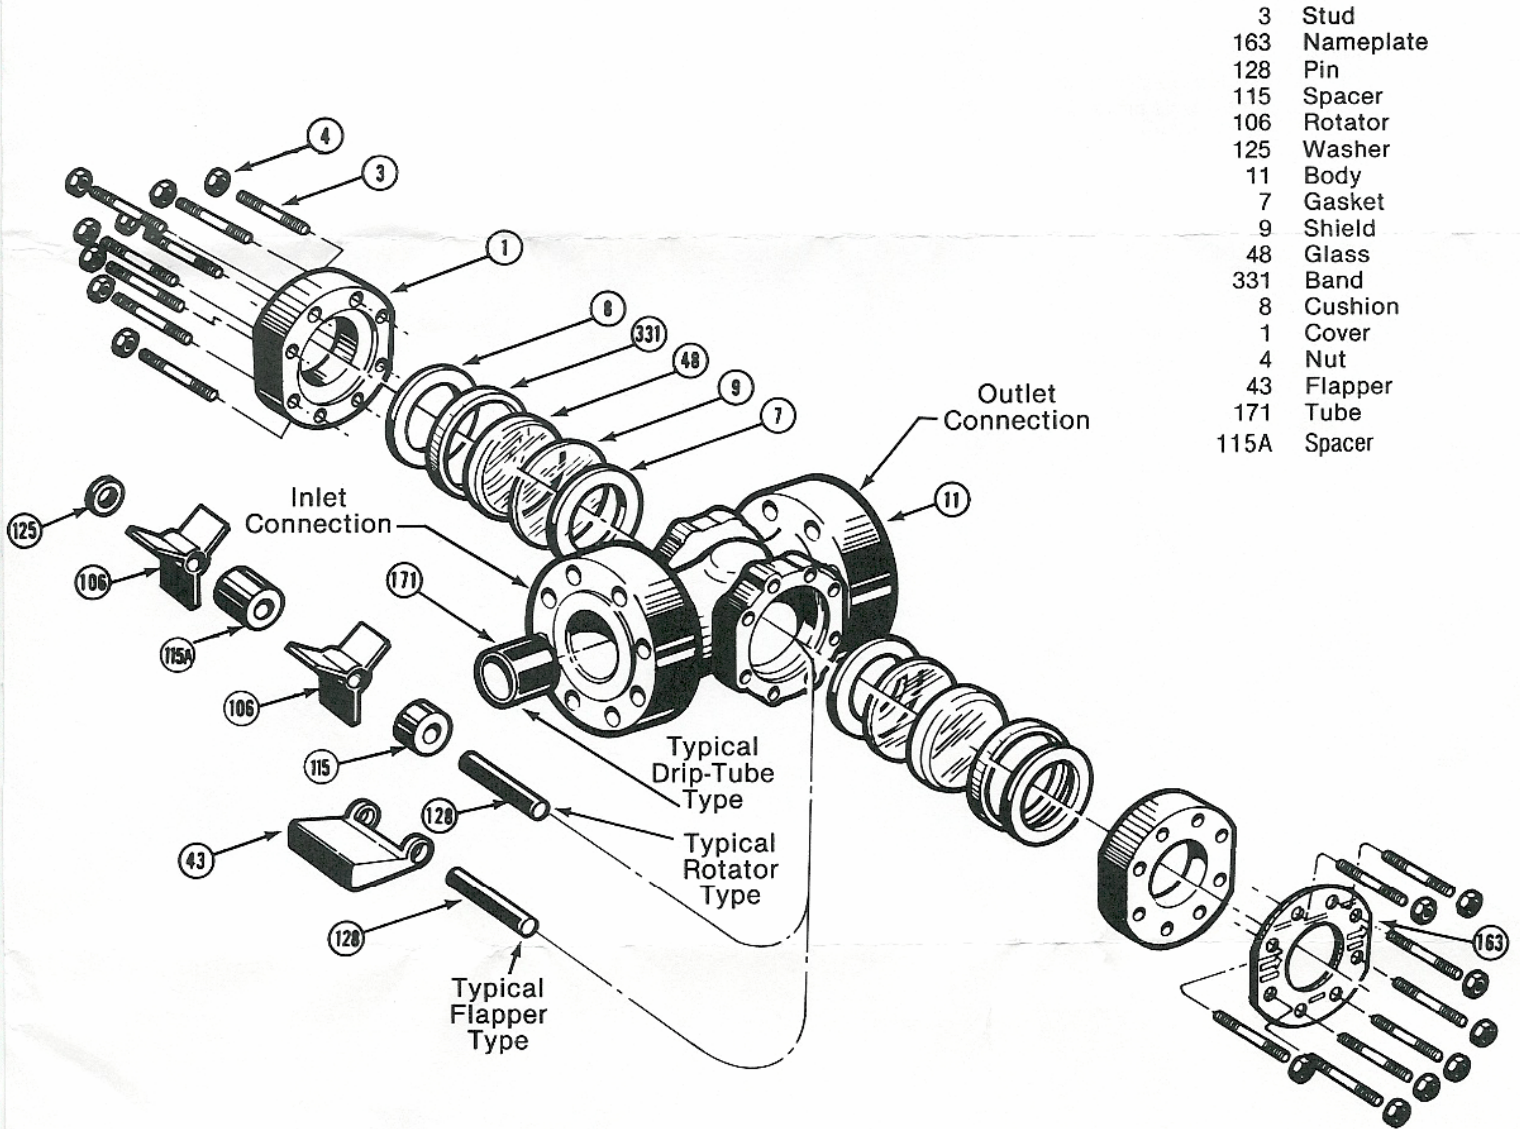

Figure 5
A. Refer to exploded view, Figure 5.
B. Prepare for installation of new glass (48) by first cleaning the gasket seating surfaces on body (11) and the cushion seating surfaces on the glass covers (1). This should be done using a soft metal scraper (preferably brass) to remove all burrs, rust, and bits of old gasket or cushion which may be present. Exercise extreme care to avoid gouging or scarring gasket or cushion seating surfaces.
- D. Place the sight flow indicator in a horizontal position and assemble the components as shown in exploded view Figure 5. Install band (331) around glass and place glass centered within the body and cover.
- E. Threads on bolts (137) and nuts (4) must be clean of paint, rust, and scale. Apply a light coat of oil to the threads and insert bolts through nameplate and two (2) covers, and install nuts finger tight.